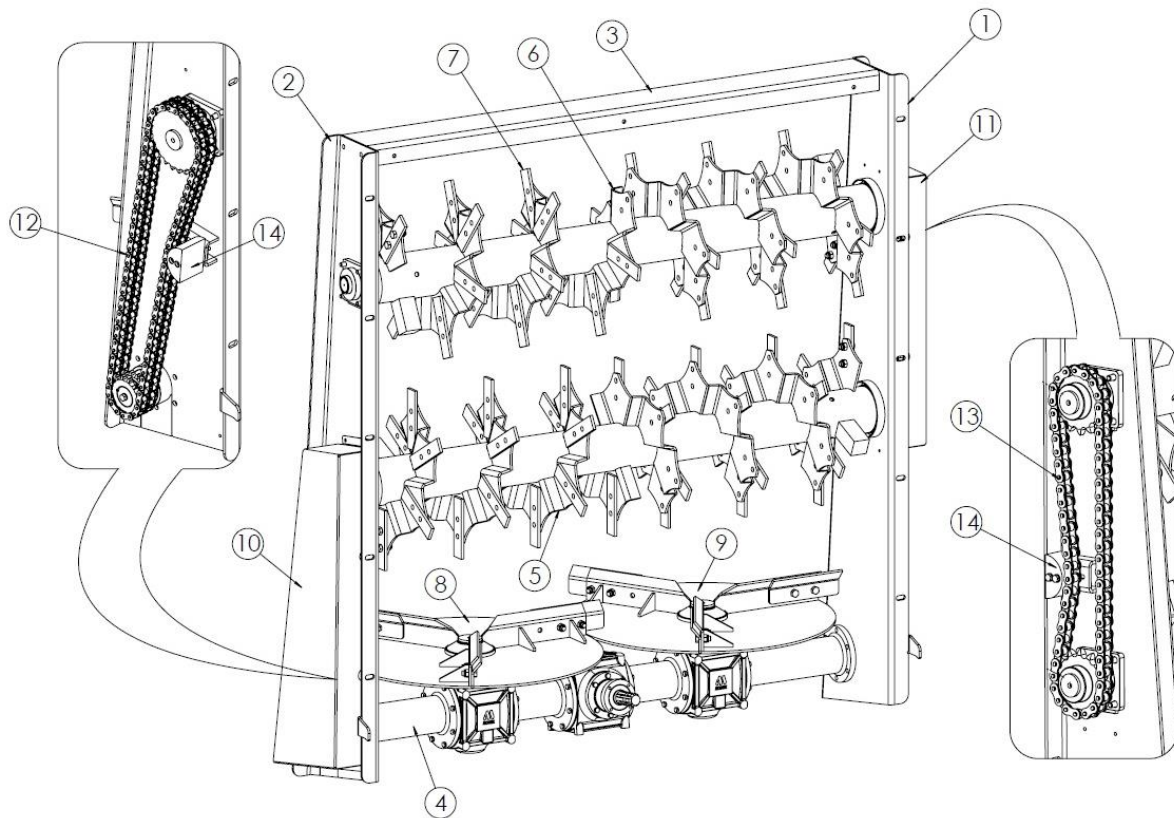

Fig. 10. 2-rotor horizontal disc adapter
The 2-auger horizontal disc beater unit (Fig. 10) consists of a left beam (1), a right beam (2) and an upper beam (3) to form the beater unit frame. In its lower part there is a gearbox (4), on which the spreading discs (5) and (6) are mounted. The main working tools consist of the replaceable blades (7) screwed on to the horizontal rotors (8) and (9). By rotating, the rotors grind the fed material, which is supplied by the adapter guard to the spreading discs. The rotating discs eject the shredded material backwards and sideways. Power is transmitted from the gear (4) to the horizontal rotors (5) and (6), via the chain transmissions installed under the guards (10) and (11). From the gear, power is transmitted to the rotor of the lower 16B2 chain (12). Power is transmitted from the bottom rotor to the upper rotor by means of the 20B1 chain (13). The chain tension is controlled by tensioners (14).